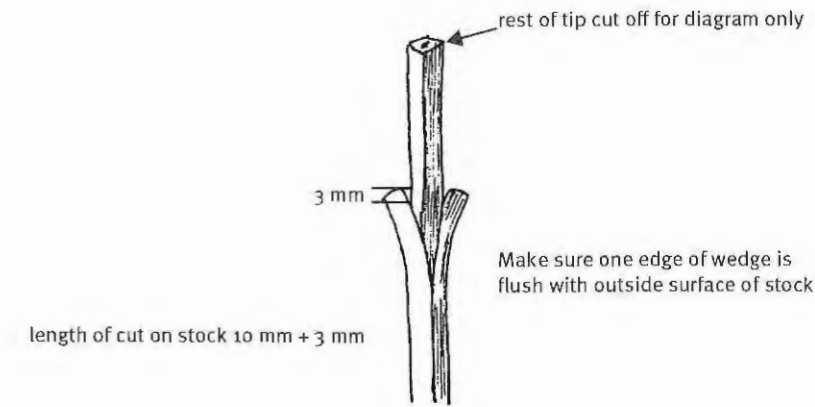

Figure 18.2 Placing the scion tip in the rootstock
3. On the rootstock, make a vertical cut at the centre of the cut stem. Make this cut about 3 millimetres longer than the length of the wedge on the scion tip (see Figure 18.2, page 180). This reduces the possibility of the scion moving upwards when tying.
4. Part the cut with your thumb and push the scion tip to the bottom of the cut. Make sure that one edge of the scion is flush with the edge of the rootstock (see Figure 18.2). This is most important, as union between the two must occur for the graft to be successful.